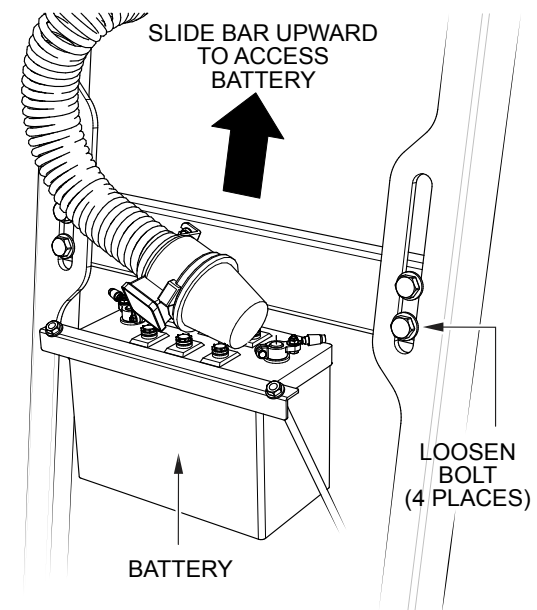

Figure 31. Raising The Battery
2. Loosen the two bolts on each side of the bar connecting the battery to the side rails (Figure 31).